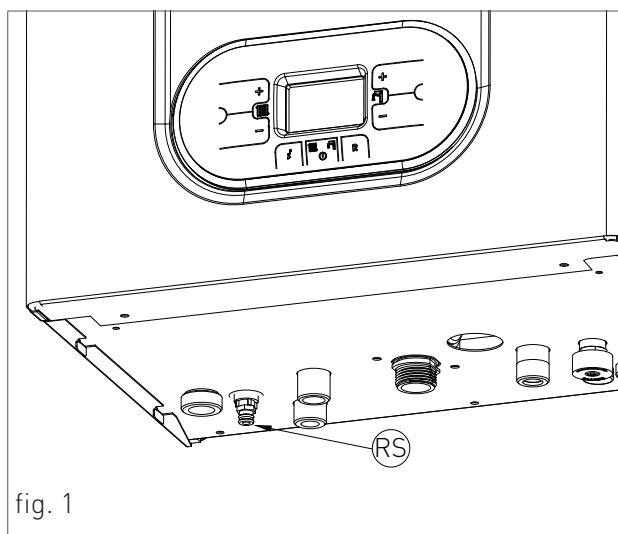

fig. 1
- › turn the discharge tap of the system 'RS' (fig. 1);